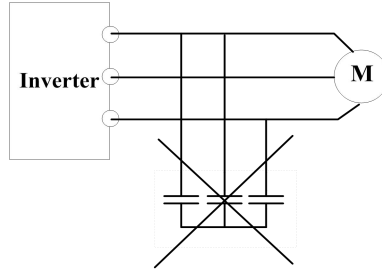

Fig 1-4 Capacitors are prohibited to be used.
- Do not connect any varistor or capacitor to the output terminals of the drive, because the drive's output voltage waveform is pulse wave, otherwise tripping or damaging of components may occur; in addition, do not install circuit breaker or contactor at the output side of the drive as shown in Fig 1-4.